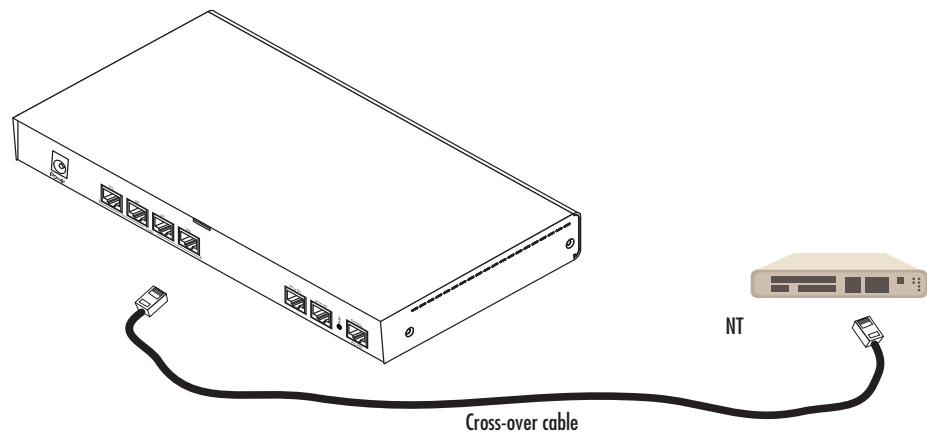

Figure 14. Connecting an E1 PRI port to an NT1
The E1 PRI is usually connected to a PBX or switch—local exchange (LE). Type and pin outs of these devices vary depending on the manufacturer. In most cases, a straight-through RJ-45 to RJ-45 can be used to connect the PRI with a PBX. A cross-over cable is required to connect to an NT device, as illustrated in Figure 14 on page 52.